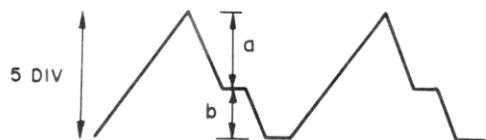

Fig. 12-7 Waveform
3. When a waveform like that shown in Fig. 12-7 is obtained, vary oscilloscope gain until a sawtooth wave with 5 div peak-to-peak is obtained. Then, referring to Fig. 12-7, adjust VR1 until a to b equals 3 to 2. (Make sure noise does not affect adjustment.)
4. When the 33 1/3 rpm adjustment is completed, adjust VR2 using the same procedure (item 2 and 3 above) for 45 rpm. Always adjust 33 1/3 first, and always adjust 33 1/3 if 45 rpm is to be adjusted even though it might be accurate.